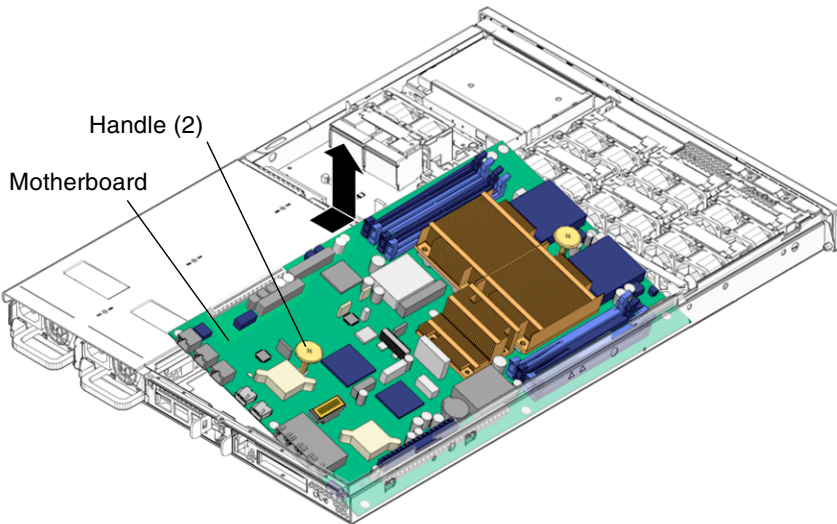

FIGURE 3-23 Removing the Motherboard Assembly From the Chassis
18. Using the green handles, slide the motherboard forward and tilt the motherboard assembly to lift it out of the chassis (FIGURE 3-23).